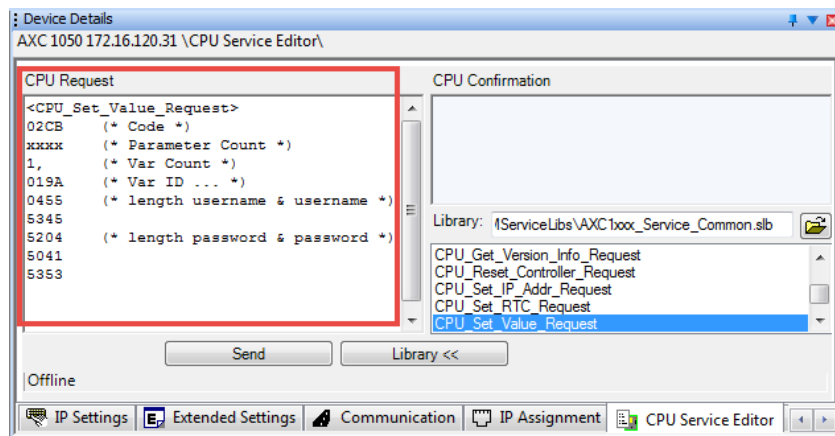

Figure 7-14 Defining a user name and password for FTP access
- Under "CPU Request" enter the desired user name and password for (* Value ... *) (in Figure 7-14 changed to (* length username & username *) and (* length password & password *)).
Figure 7-14 shows the settings for defining the user name "USER" and the password "PASS" under "CPU Request".